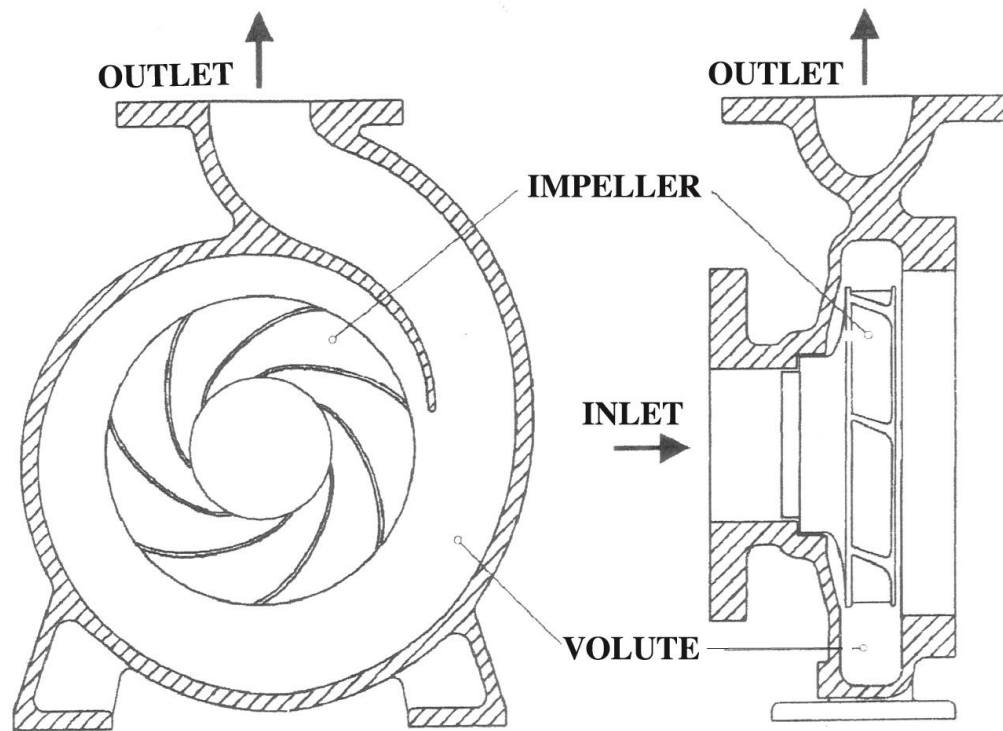

Figure 4. Centrifugal pump
4. Figure 4 shows a cylinder intersecting a right cone at an angle of 60° to the horizontal.
- 6.** Figures 4 and 5 show drawings of an assembled centrifugal pump and motor.